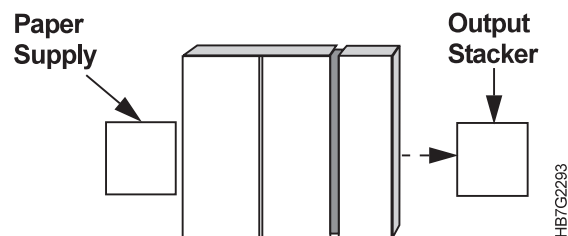

Figure 220. Moving the Output Stacker
- 2 Move the stacker away from the fixed tower, as shown in Figure 220.